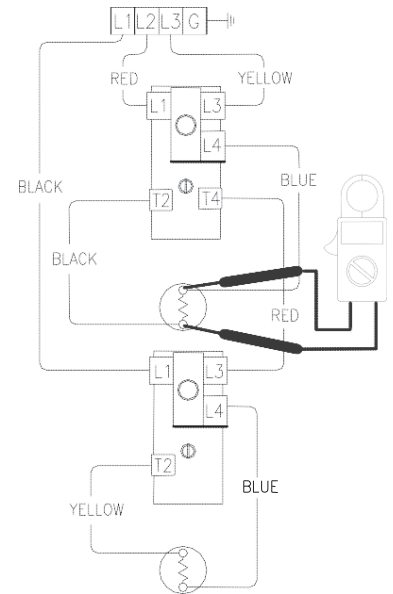

Figure 42
5. Check across element terminals (see Figure 42).